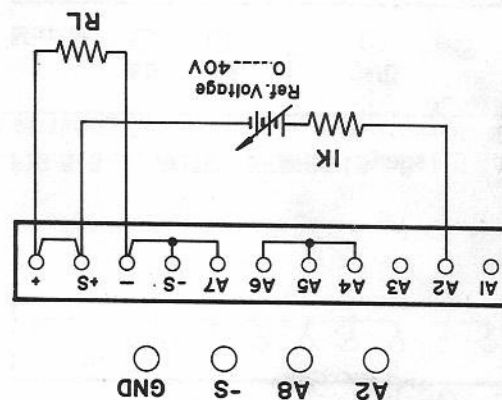
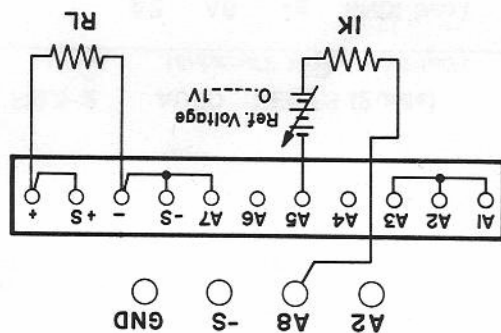

FIG. 3-8 Voltage Programming
FIG. 3-9 Voltage Programming
- b) Voltage programming (Fig. 3-8 or 3-9)
In this case the output voltage will vary linearly with a reference voltage which is connected as shown in Fig. 3-8. That means that the output voltage will be equal to the reference voltage. The maximum output current required from the reference supply will be 5 mA independent of the current drawn from the output terminals of the power supply. If connected according to Fig. 3-9, the output current will vary linearly with the reference voltage.